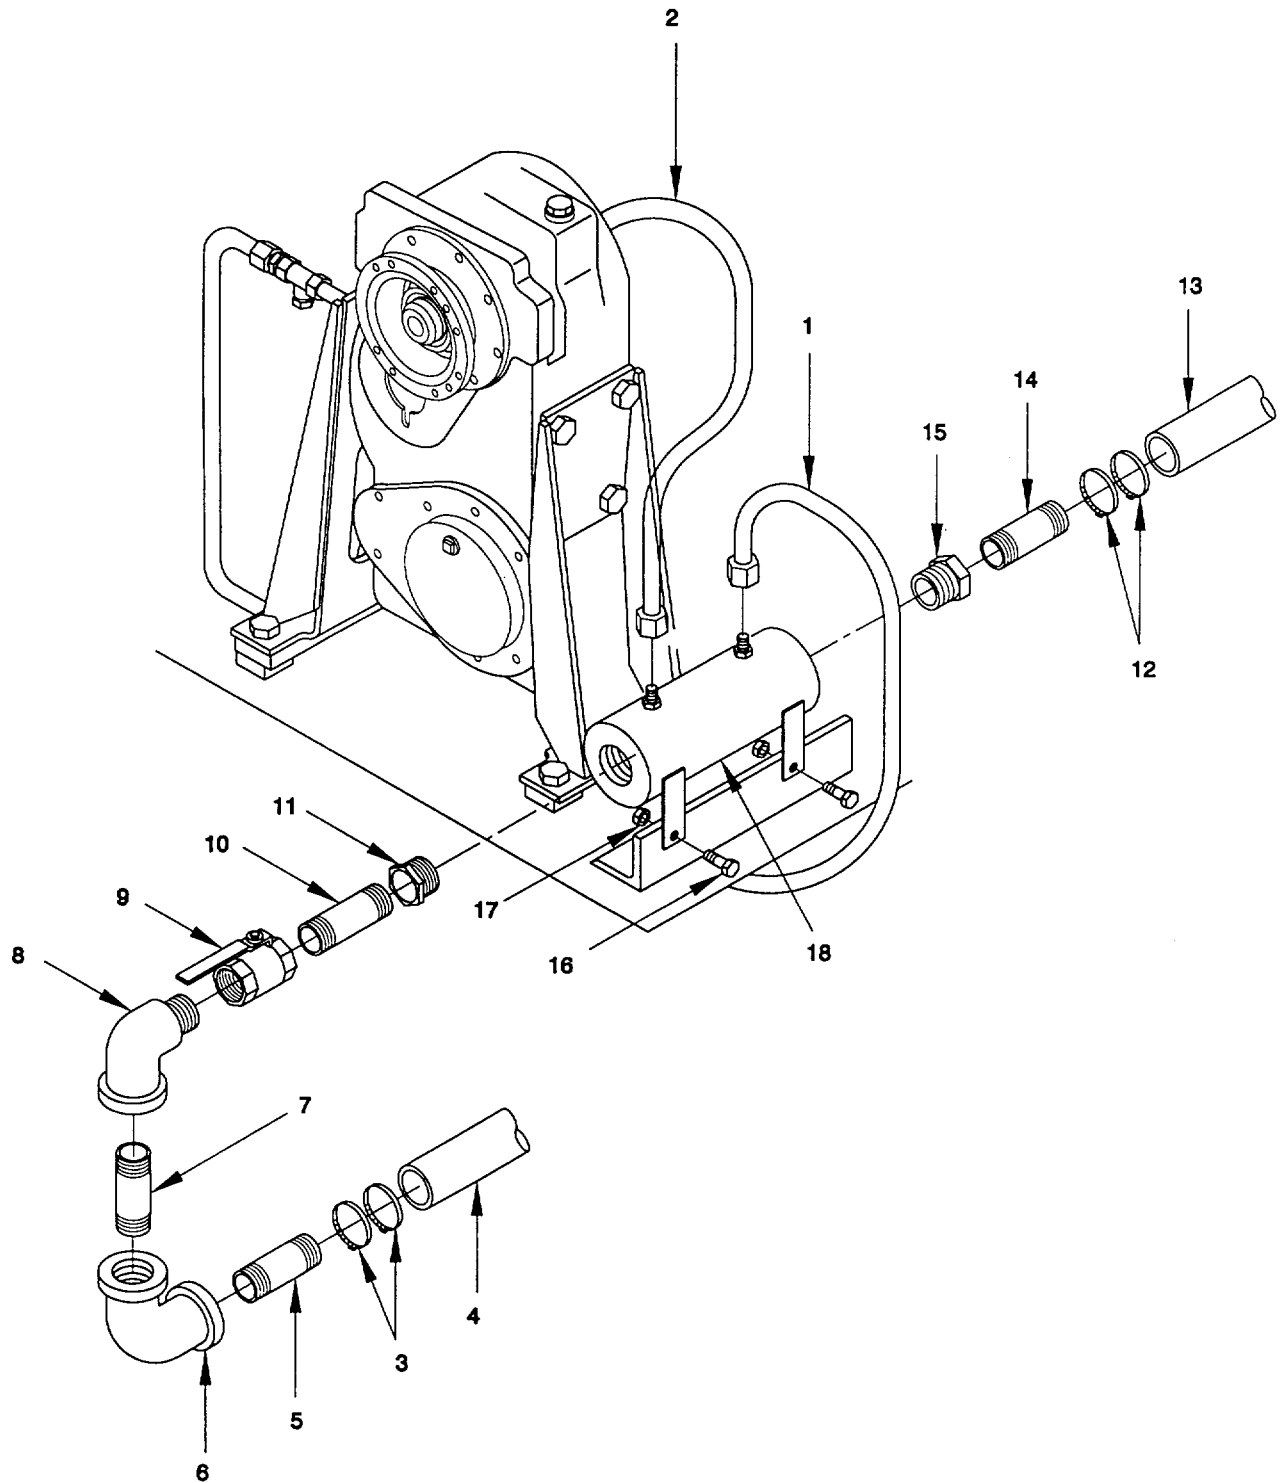

Figure 3-3. Oil Cooler, Drive Train, Remove/Install.
a. Remove. (figure 3-3)
- (1) Ensure oil is drained out of transfer case. Disconnect hose assembly (1) at oil cooler outlet. Cover hose end to prevent dirt and debris from entering hose.
- (2) Disconnect hose assembly (2) at oil cooler inlet. Cover hose end to prevent dirt and debris from entering hose.
- (3) Loosen clamps (3) and disconnect hose (4). Disassemble nipple (5), elbow (6), nipple (7), street elbow (8), ball valve (9), nipple (10), and reducer (11) from cooler.
- (4) Loosen clamps (12) and disconnect hose (13). Disassemble nipple (14) and reducer (15) from cooler (18).
- (5) Remove two hex head capscrews (16) and hex nuts (17) to free oil cooler (18) from foundation.
b. Install. (figure 3-3)
- (1) Position oil cooler (18) on foundation and secure with two hex head capscrews (16) and hex nuts (17).
- (2) Assemble reducer (15) and nipple (14) into cooler (18). Attach hose (13) and secure with clamps (12).
- (3) Assemble reducer (11), nipple (10), ball valve (9), street elbow (8), nipple (7), elbow (6) and nipple (5) into cooler (18). Attach hose (4) and secure with clamps (3).
- (4) Remove cover on hose assembly (2) end and connect hose assembly (2) from port "A" of transfer case to oil cooler inlet.
- (5) Remove cover on hose assembly (1) end and connect hose assembly (1) from port "B" of transfer case to oil cooler outlet.
- (6) Fill transfer case with oil (refer to paragraph 3-14). Check hose connections, oil cooler and transfer case for oil leakage.